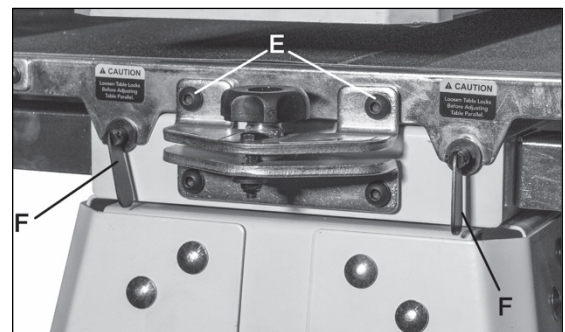

Figure 10-7
8. Remove two (2) screws that attach conveyor table to base.
9. Remove two (2) screws that attach conveyor table to drum alignment bracket (E, Figure 10-7).
10. Loosen two locks (F, Figure 10-7).